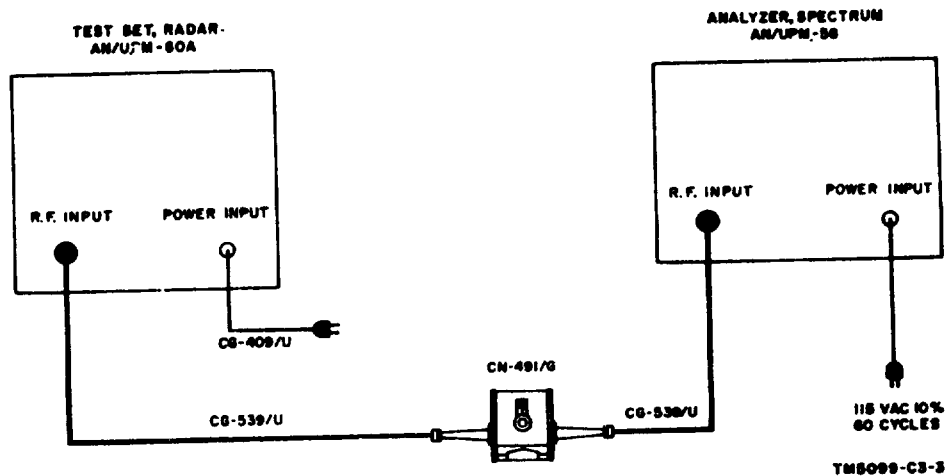

Figure 56.3. Attenuator accuracy test.
- b. Set up the equipment as shown in figure 56.3.
- (1) Function switch: MIXER position.
- (2) SPECTRUM WIDTH: maximum counter-clockwise position.